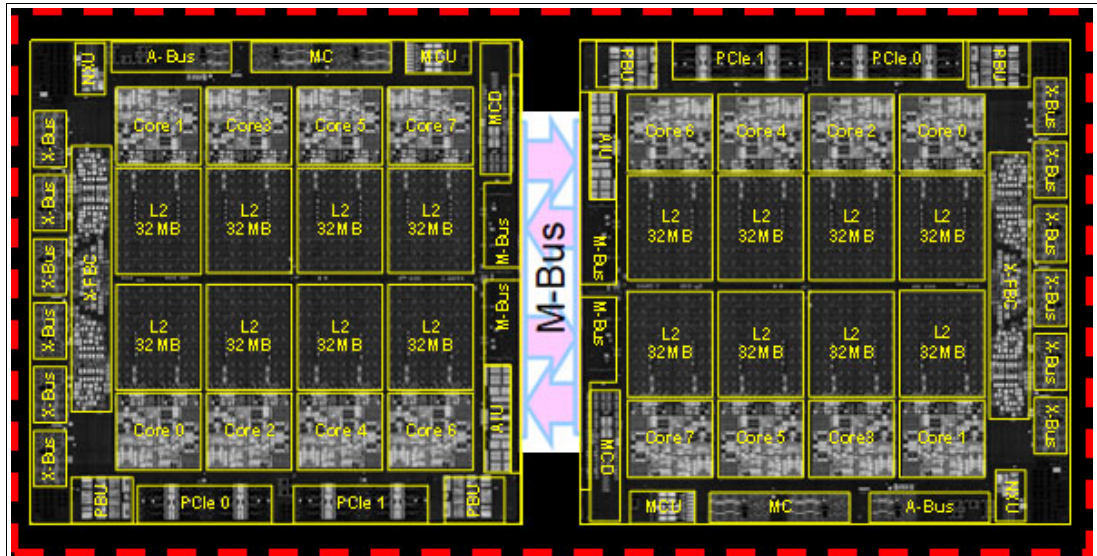

Figure 9-3 IBM z16 Dual Chip Module (M-Bus connects the two chips)
- ▶ Two PU chips are packaged on a dual chip module (DCM), as shown in Figure 9-3. PU chip to PU chip communication is performed through the M-Bus, which is a high-speed bus that acts as ring-to-ring extension communication at 160 Gbps data rate, with the following RAS characteristics: